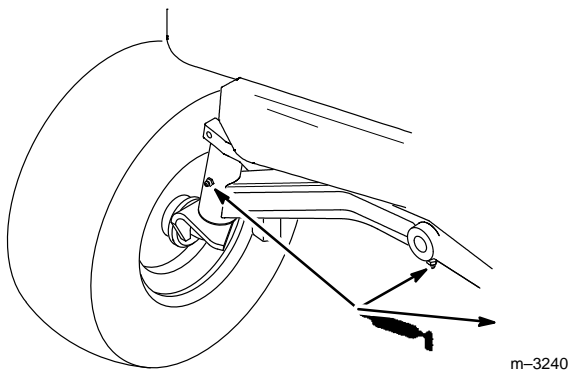

Figure 31
1. Lubricate the left-hand and right-hand spindles until grease begins to ooze out of the bearings (Fig. 31).
2. Lubricate the front axle pivot (Fig. 31).